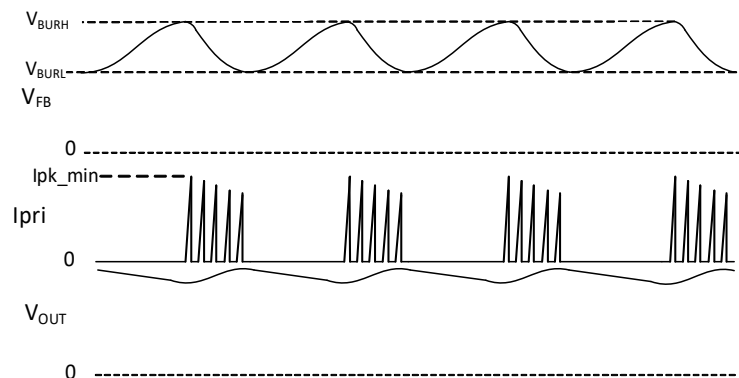

Figure 23. Burst Mode Operation at Light Load
- Burst Mode – At light load, the regulator transitions into the burst mode operation to save IC power consumption. While the load decreases, the FB voltage is reduces. When the load drops below V_{BURL} , the part enters burst mode operation, and the IC stops switching. When FB voltage rises back to V_{BURH} , the IC resumes switching until FB voltage falls back to V_{BURL} . In Burst mode, the peak current is typically not more than V_{CS_MIN}/R_S excluding the overshoot, and the burst frequency is below 3kHz, which effectively minimizes the audible noises. See the Burst mode operation in Figure 23.